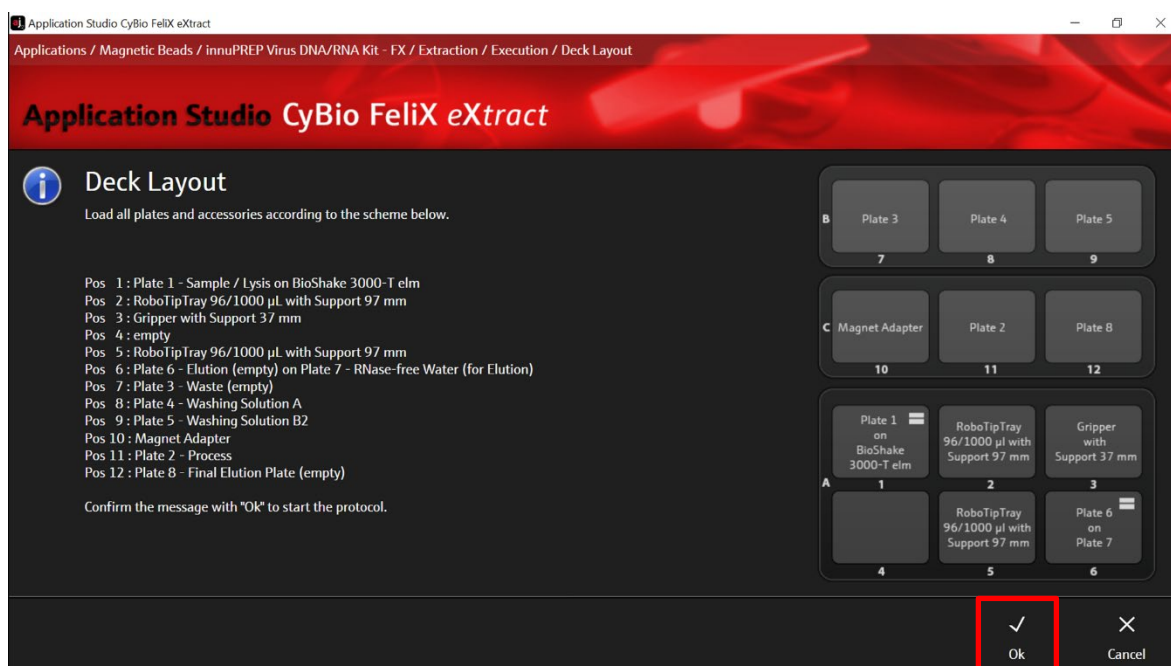

Figure 17: Deck layout for checking the correct positions of plates and accessories.
9. After selecting "Execute" the deck layout appears. Check the correct positioning of the plates and accessories and confirm with "Ok" to start the protocol (\rightarrow see Figure 17).